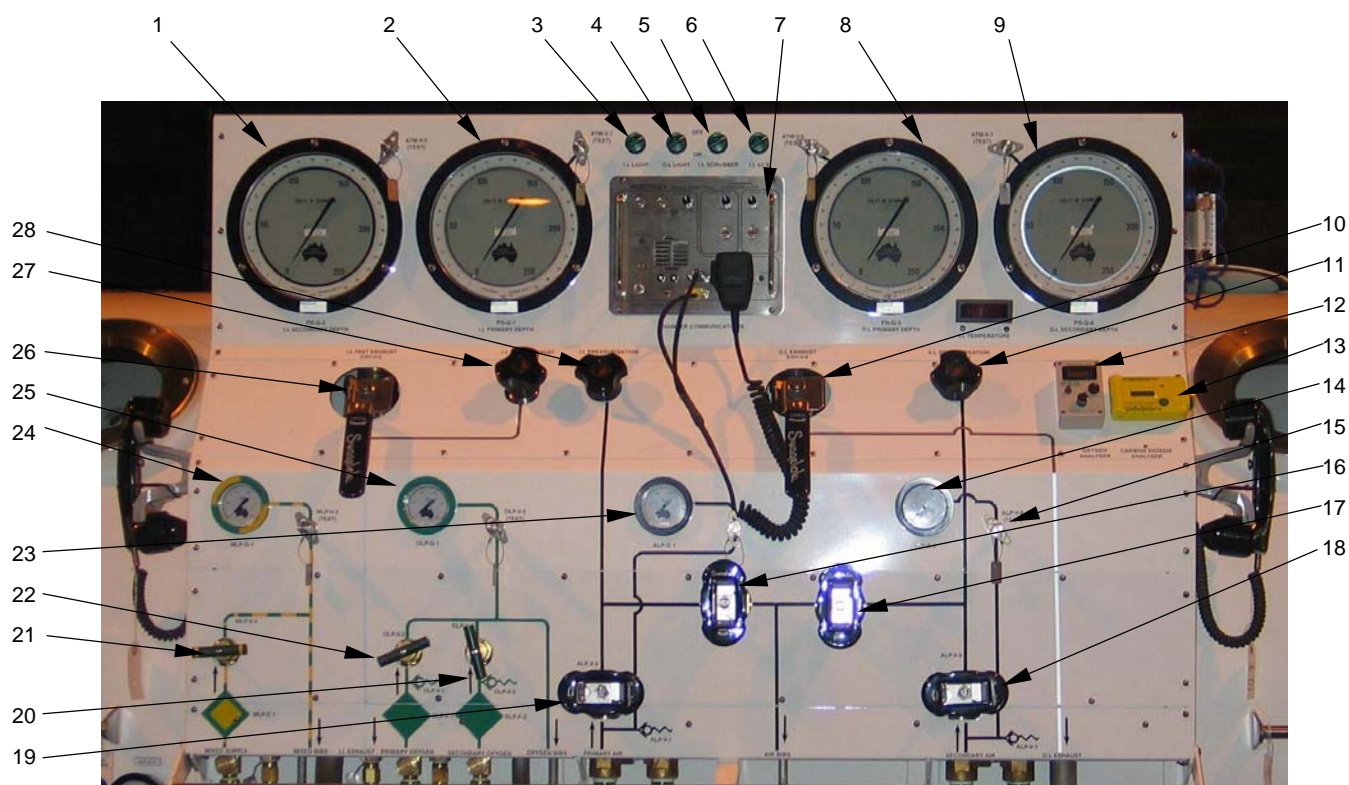

Figure 3-12. Chamber Control Console
**3-2.5 CHAMBER CONTROL CONSOLE.** The Chamber Control Console (Figure 3-12) monitors and controls the air supply and air quality in both the inner lock (IL) and outer lock (OL) of the recompression chamber.
**3-2.5.1 Inner and Outer Lock Depth Gauges.** Each gauge indicates the depth in feet of seawater corresponding to the pressure of the inner and outer locks of the recompression chamber. In Figure 3-12, items 1 and 2 are the Inner Lock (IL) Secondary and Primary Depth Gauges, PN-G-2 and PN-G-1, and items 8 and 9 are the Outer Lock (OL) Primary and Secondary Depth Gauges, PN-G-3 and PN-G-4.
**3-2.5.2 IL and OL Light Switches.** Each switch (Figure 3-12, items 3 and 4) controls the 110-volt fluorescent lights located over the inner and outer chamber viewports.
**3-2.5.3 IL Carbon Dioxide (CO2) Scrubber Switch.** This switch (Figure 3-12, item 5) controls 24-volt dc power to the circulating fan for the carbon dioxide scrubber.
**3-2.5.4 IL Environmental Control System (ECS) Switch.** This switch (Figure 3-12, item 6) controls 24-volt dc power to the circulating fan for the ECS heat exchanger.
**3-2.5.5 Chamber Communications Panel.** This panel (Figure 3-12, item 7) controls the electronic communication system to allow voice communication with the personnel inside the chamber. A sound-powered backup phone is provided and is located on either end of the chamber control console.
**3-2.5.6 IL and OL Fast Exhaust Valves.** These quarter-turn ball valves are used to rapidly release the pressure from the IL and/or the OL to atmosphere via the chamber vent manifold piping. In Figure 3-12, item 26 (EXH-V-5) is the IL Fast Exhaust Valve and item 10 (EXH-V-8) is the OL Fast Exhaust Valve.
**3-2.5.7 IL and OL Low-Pressure (LP) Air Pressurization Valves.** These 1/2" double seat valves are used to pressurize the IL and OL depth by supplying LP compressed air from the air supply reducers. In Figure 3-12, item 28 (ALP-V-5) is the IL LP Air Pressurization Valve and item 11 (ALP-V-13) is the OL LP Air Pressurization Valve.
**3-2.5.8 Oxygen (O2) Analyzer.** This device (Figure 3-12, item 12), when connected to the air sampling system, is used to monitor the amount of oxygen in the inner lock, outer lock, breathing air supply, oxygen supply, or mixed gas supply piping.
**3-2.5.9 CO2 Analyzer.** This device (Figure 3-12, item 13), when connected to the air sampling system, is used to monitor the amount of CO2 that is present in the IL, OL, breathing air supply, O2 supply, or mixed gas supply piping.
**3-2.5.10 Primary and Secondary LP Air Supply Gauges.** These gauges indicate the pressures of the LP air supplied from the primary and secondary high-pressure (HP) air regulators. This air is used as a supply to the LP air BIBS manifolds in the inner and outer locks and as a pressurization source for the inner and outer locks. In Figure 3-12, item 23 (ALP-G-1) is the Primary LP Air Supply Gauge and item 14 (ALP-G-2) is the Secondary LP Air Supply Gauge.
**3-2.5.11 Chamber Control Console Gauge Valves.** The gauge valves are mounted in the supply piping to each gauge in the system. These valves are designed to act as isolation valves or as a test fitting to allow for testing the gauge in place. In Figure 3-12, item 15, the Secondary LP Air Supply Gauge Valve (ALP-V-8), is a representative example. See Figure 2-1 for the names and locations of all Chamber Control Console gauge valves.
**3-2.5.12 Primary and Secondary LP Air Cross Connect Valves.** These 1/2" ball valves control the primary and secondary LP air supplies to the air BIBS manifolds in the inner and outer locks. They also provide primary air to OL pressurization and/or secondary air to IL pressurization. In Figure 3-12, item 17 (ALP-V-4) is the Primary LP Air Cross Connect Valve and item 16 (ALP-V-10) is the Secondary LP Air Cross Connect Valve.
**3-2.5.13 Primary and Secondary LP Air Shutoff Valves.** These 1/2" ball valves control the primary and secondary LP air supplies to the chamber from the HP air reducers. In Figure 3-12, item 19 (ALP-V-3) is the Primary LP Air Shutoff Valve and item 18 (ALP-V-9) is the Secondary LP Air Shutoff Valve.
**3-2.5.14 Primary and Secondary O2 Supply Valves.** These needle valves control the pressure of the oxygen supplied to the oxygen BIBS manifold. In Figure 3-12, item 22 (OLP-V-2) is the Primary O2 Supply Valve and item 20 (OLP-V-4) is the Secondary O2 Supply Valve.
**3-2.5.15 LP Mixed Gas Shutoff Valve.** This needle valve controls the pressure of the mixed gas supplied to the mixed gas BIBS manifold. In Figure 3-12, item 21 (MLP-V-2) is the LP Mixed Gas Shutoff Valve.
**3-2.5.16 LP Mixed Gas Pressure Gauge.** This gauge indicates the pressure of the mixed gas supply pressure to the mixed gas BIBS manifold in the inner lock. In Figure 3-12, item 24 (MLP-G-1) is the LP Mixed Gas Pressure Gauge.
**3-2.5.17 LP O2 Supply Gauge.** This gauge indicates the pressure of the oxygen gas supply pressure to the oxygen BIBS manifold in the inner lock. In Figure 3-12, item 25 (OLP-G-1) is the LP O2 Supply Gauge.
**3-2.5.18 IL Slow Exhaust Valve.** This 1/2" double seat valve is used to decrease the IL depth by venting the IL pressure to atmosphere via the chamber vent manifold piping. In Figure 3-12, item 27 (EXH-V-6) is the IL Slow Exhaust Valve.